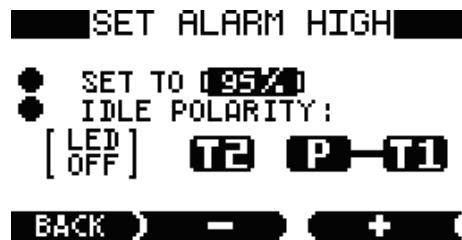

Figure 8: High Alarm Set Value screen
The first menu option allows you to set the value of the high alarm. The set point is given in percent of the span of the unit. To set the value, highlight the numerical value box and press EDIT. Figure 8 below shows the display with the value box selected for setting.
- 2vi) The central and right-hand + and – buttons now enable the limit to be changed in 5% steps (This display screen is shown in Figure 8).
If it is set to LED ON, the High Alarm LED will be on when the indicated concentration is less than the set point and terminal T2 will be connected to the common terminal P. The non-alarm state of the LED and Relay is indicated by the bar connecting either T1 or T2 to P (as shown in Figure 8).
- changed in 5% steps (This display screen is shown in Figure 8).